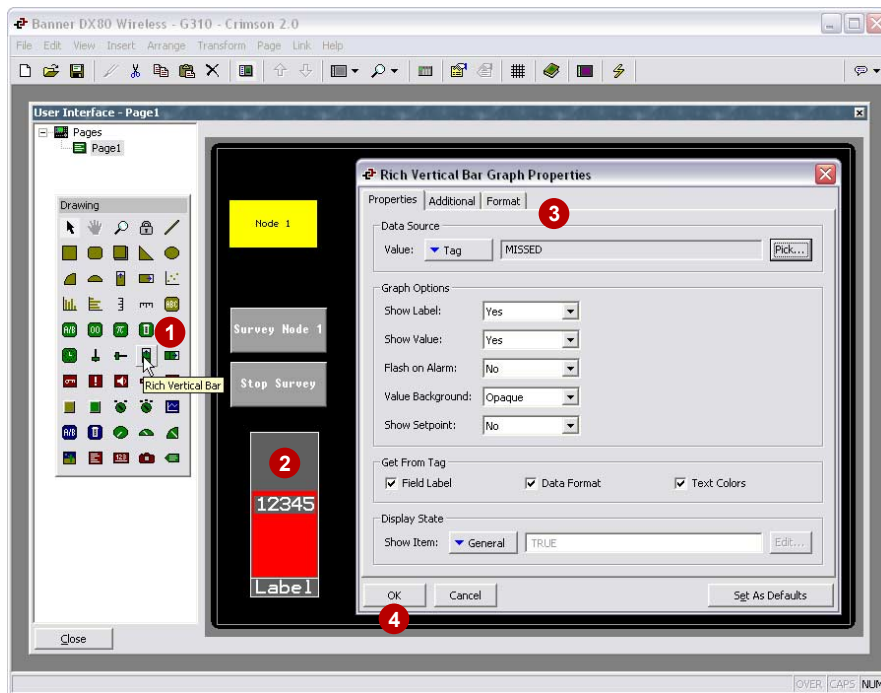

Figure 28
1. Create a rich vertical bar graph (Figure 28)